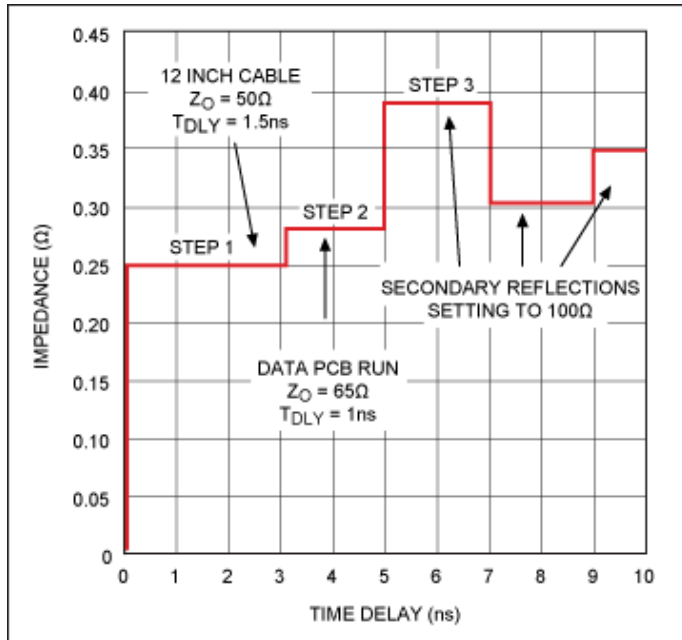

Figure 5. SPICE simulation of the model shown in Figure 4 (node TPv3). Data were gathered at the DATA1 input of the MAX9979EVKIT.
Figure 5 displays the SPICE simulation of the waveform at TPv3.
Several observations can be made from the data in Figure 5.
- **Figure 7** is identical to the simulated plot shown in Figure 5. This confirms the accuracy of our model.